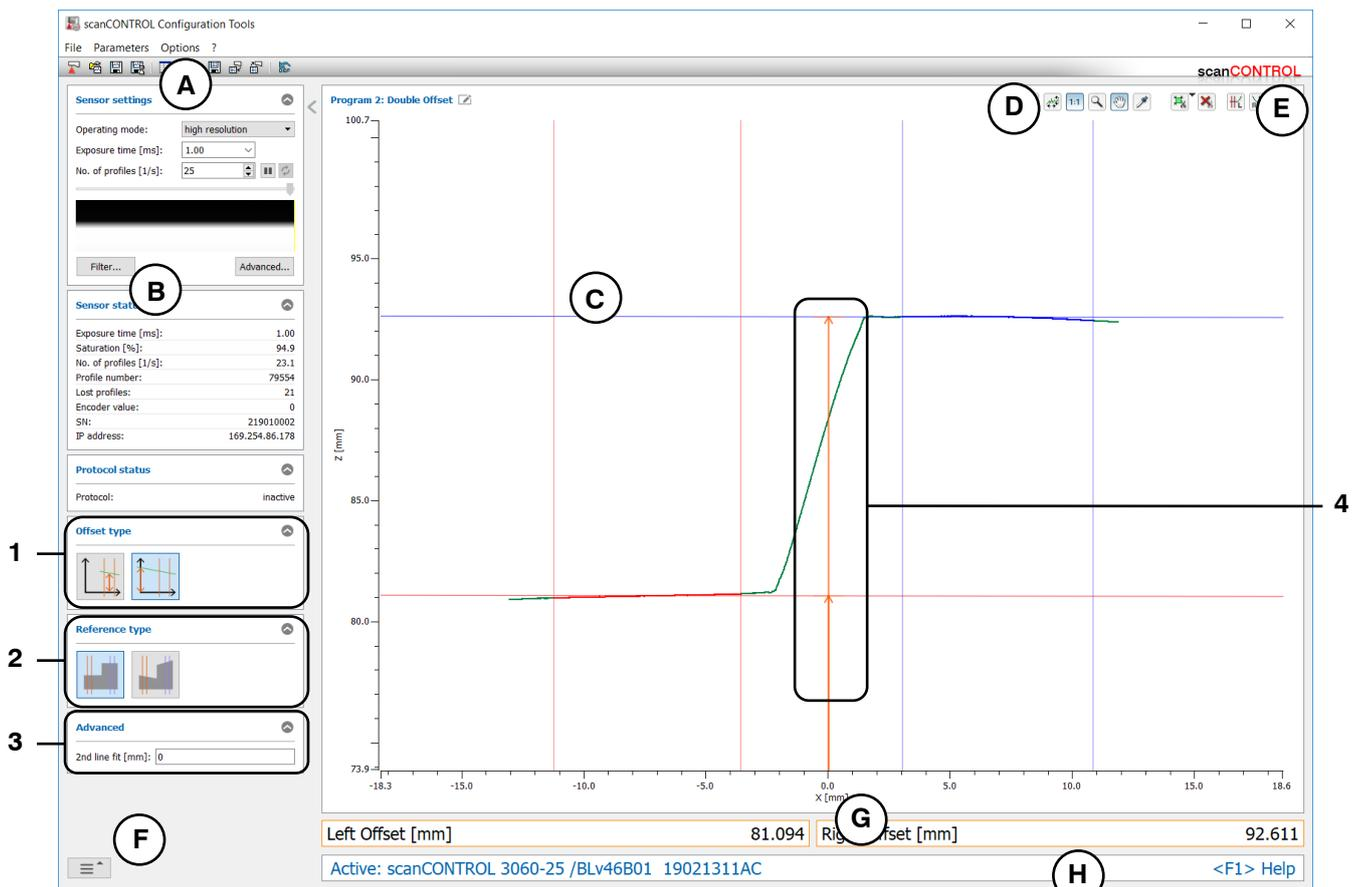

Fig. 4.15: "Double Offset" measuring program
- Define the type of lines (parallel  or not parallel , see Fig. 4.15 and Chapter 3.13.1). This selection is only available if the algorithm for the calculation of the offset is set to "Z coordinate of the intersection point of the fitted line with the Z axis"